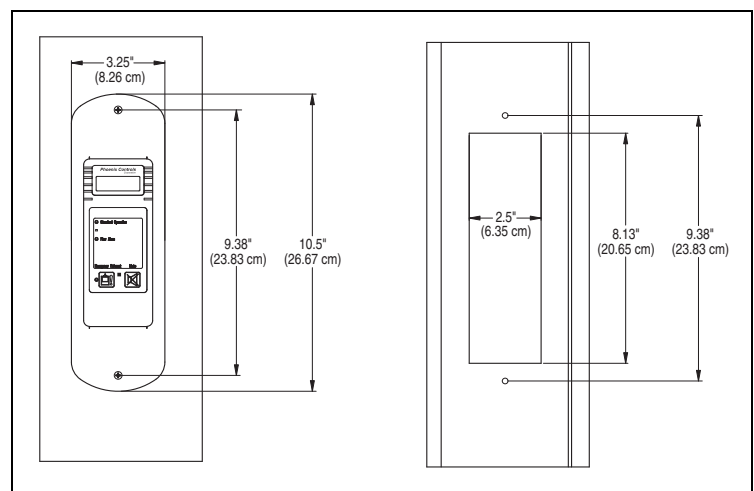

Figure 7. Fume Hood Monitor mounting template (retrofit jobs).
1. Use the existing monitor to cut out hole and screw pilot holes from the previous FHM X10 Series monitor installation. Ensure that the dimensions of the cutout and mounting holes match those given here (see Figure 7).